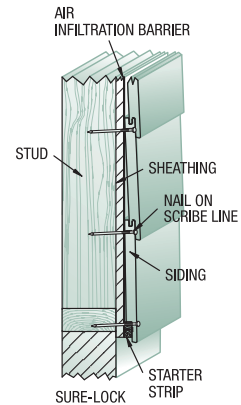

FIG. 4
- Although not recommended, where 24" o.c. vertical framing is used, wood-based sheathing is required. Follow product specific nailing pattern (see Fig 4) and nail to framing 24 o.c. with intermediate nailing 12" o.c. to sheathing.
- Sure Lock siding requires one nail per lap piece on all studs 16" o.c. Make sure each nail is placed precisely on the scored nailing guideline. (This ensures that the nail head is properly concealed and does not penetrate the interlock groove.) The top of the nail must be flush to insure ease of interlock during application. *See Fig 4.*